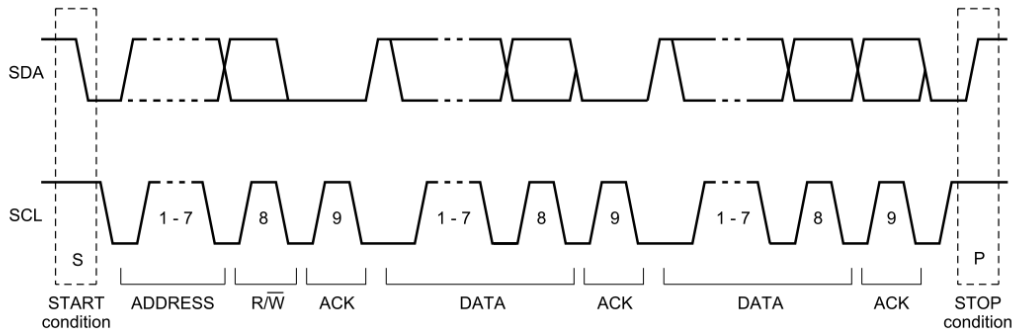

Figure 42. An Example of I2C Data Transfer
The RT8848A/B features an I2C interface to allow user to adjust various operating parameters. The supported operating parameters that can be adjusted through I2C communication are summarized as below register tables. The data transfers follow the format shown in Figure 42. After the START condition (S), a slave address is sent. The address is 7 bits long followed by an 8 bits which is a data direction bit (R/W). A data transfer is always terminated by a STOP condition (P) generated by the master. However, if a master still wishes to communicate on the bus, it can generate a repeated START condition (Sr) and address another slave without first generating a STOP condition. Various combinations of read/write formats are then possible within such a transfer.